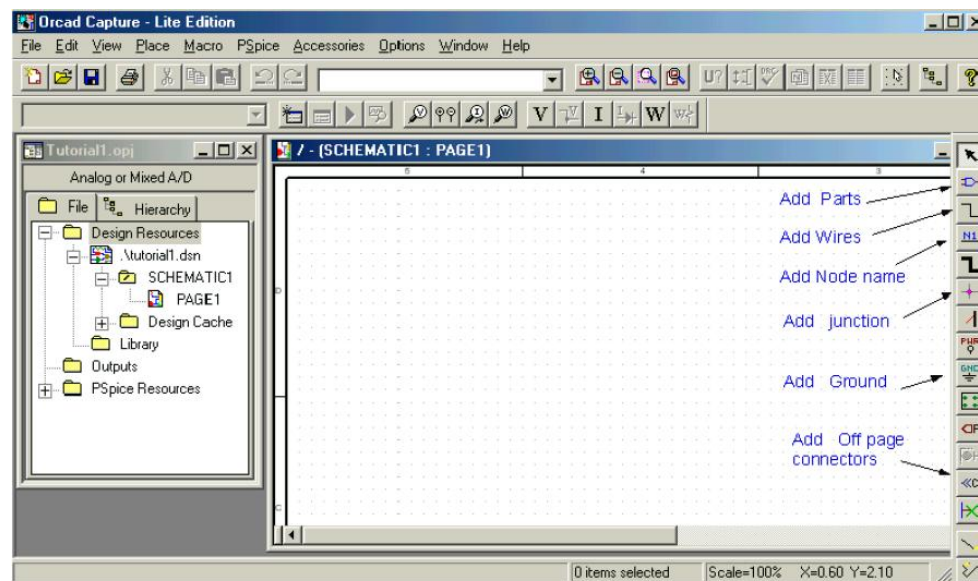

Figure 3. Design manager with schematic window and toolbars (OrCAD screen capture)
- e) After placing all parts, you need to place the Ground terminal by clicking on the GND icon (on the right side toolbar – see Fig. 3). When the Place Ground window opens, select GND/CAPSYM and **give it the name 0 (i.e. zero)**. Do not forget to change the name to 0, otherwise PSpice will give an error or "Floating Node". The reason is that SPICE needs a ground terminal as the reference node that has the node number or name 0 (zero).